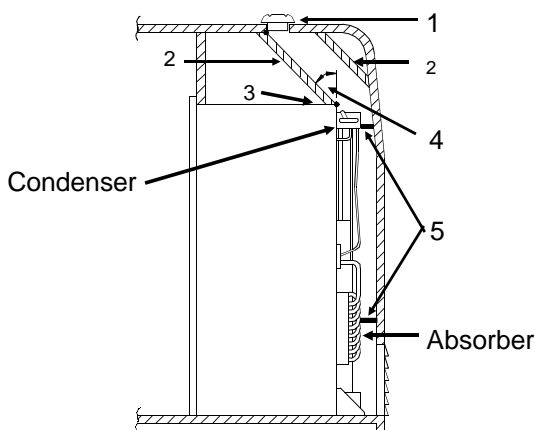

Figure 3
Alternate Construction Requirements Figure 3
4. 0 - 1 inch clearance at the rear of the refrigerator. (See Figure 3 when clearance exceeds 1 inch).